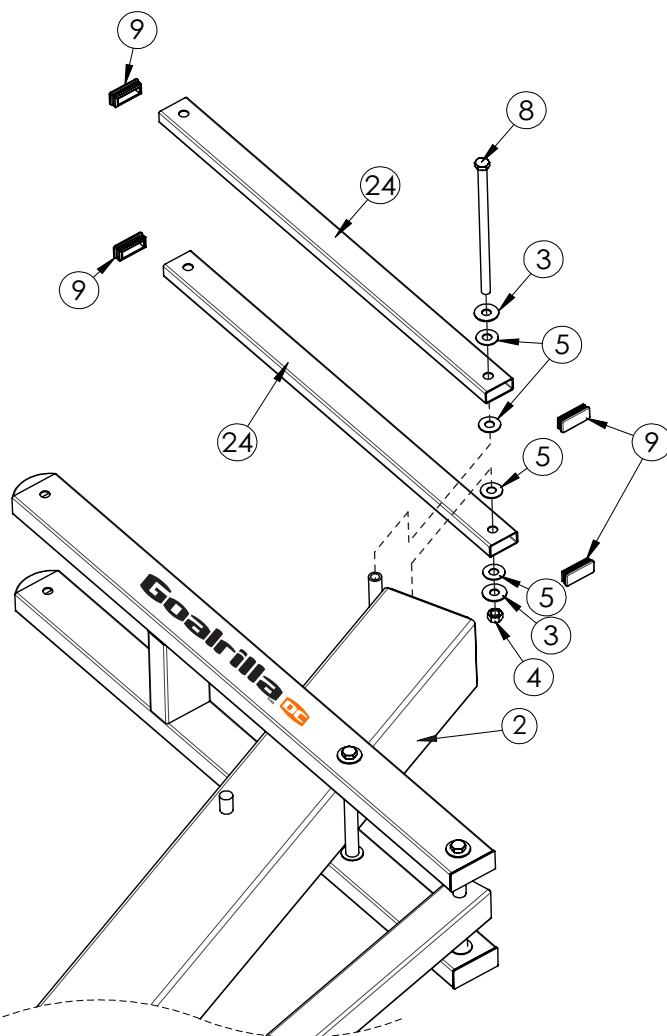

Figure 6
7. Attach Middle Arms (#24) to Pole (#2), as shown in Figure 6, using bolt (#8), two Flat Washers (#3), four plastic Washers (#5) and Hex Nut (#4).